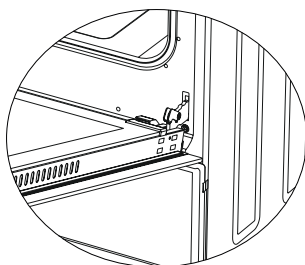

Figure 15.2
2. Bring the hinge lock to the widest angle as shown in figure 15.2. Bring both hinges connecting the oven door to the oven to the same position.